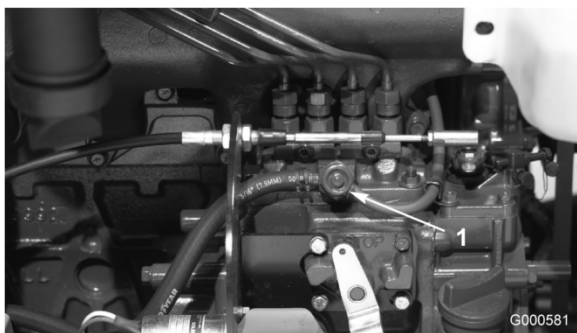

Figure 37
3. Open the air bleed screw on the fuel injection pump (Figure 37).